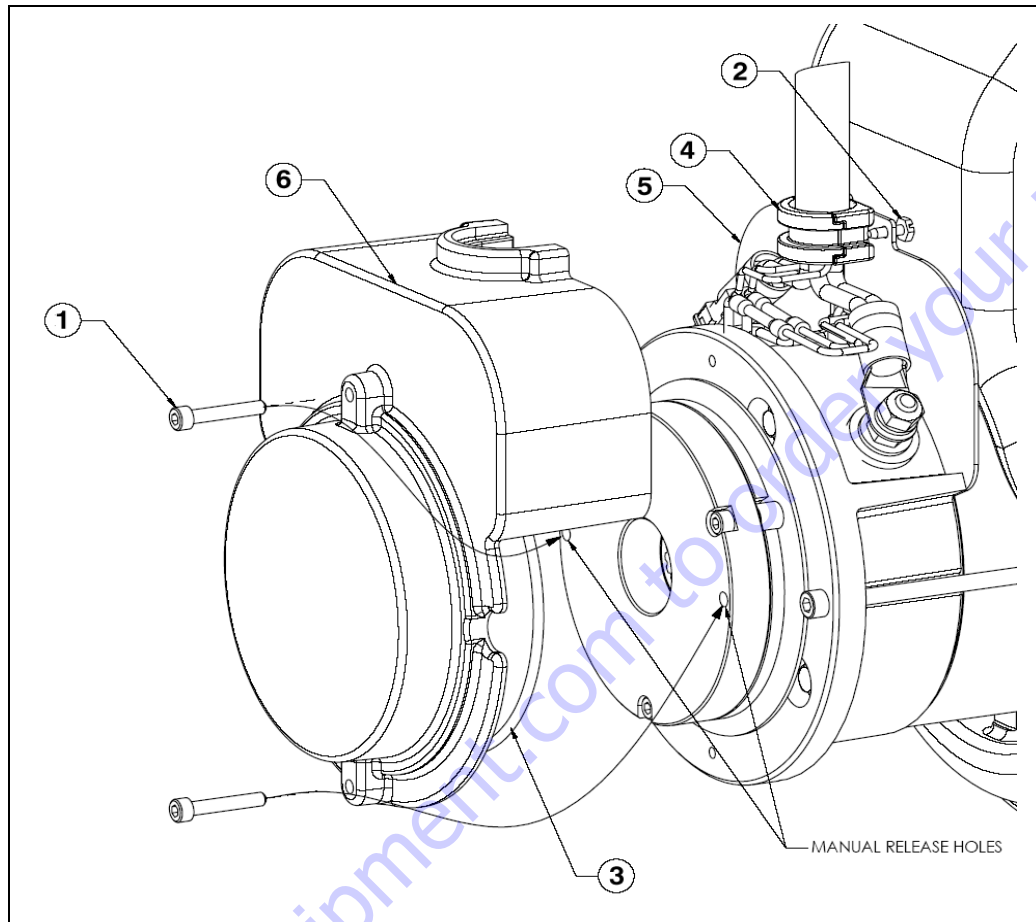
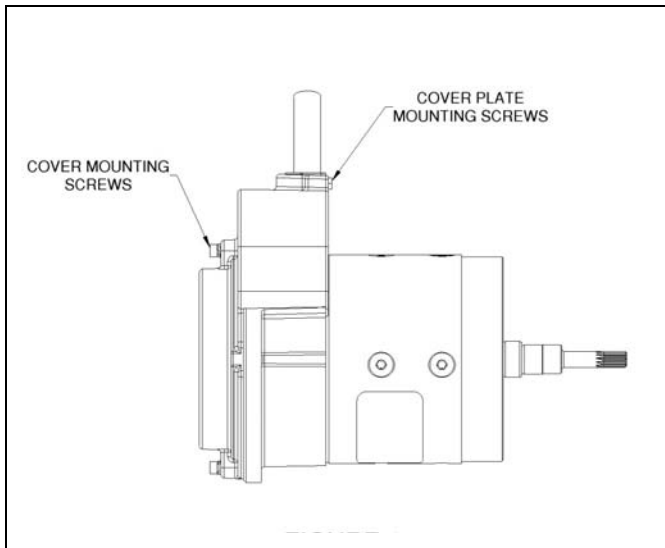
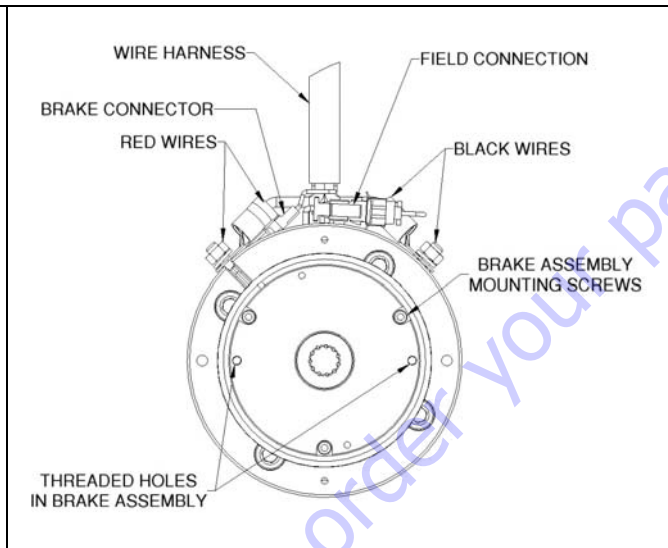

Figure 4-4. Brake Manual Disengage Procedure
Figure 4-6. Drive Motor Side View
Figure 4-7. Drive Motor End View (Brake End)
1. Remove the 2 (#8-32UNC x .500in long) screws holding the cover plate (12) in place (See Figure 4-6.) and remove the cover plate from the motor.
2. Remove the 2 (M5 x 0.8 x 20mm long) screws holding the cover (15) in place and set aside. These screws are needed later to manually release the brake. Slide the strain relief bushing (14) and wire harness out of the cover and remove the cover from the motor. Remove strain relief bushing from wire harness and set aside.
3. Discard the O-ring (13) located inside the cover.
4. Remove the wire harness (8) from the motor by disconnecting the field connection, brake connection, and armature connections. (See Figure 4-7.).
5. Install the 2 cover mounting screws into the threaded holes in the brake assembly and tighten to manually release the brake. (See Figure 4-7.) or image in the "Manual Disengage Procedure" (See Figure 4-4.).
6. Remove the 3 screws holding the brake assembly (11) to the motor. Carefully remove the brake assembly and friction disk (10) from the motor by sliding off of the shaft. (See Figure 4-7.).
7. Remove the screws holding the commutator end head (9) in place and remove the commutator end head from the frame and field assembly (1). The armature (2) will be attached to the commutator end head.
8. Pull back the brush springs (4) in the commutator end head, pull the brush back and rest the springs on the side of the brush. The brushes should move freely within the holders.
10. Remove the snap ring (6) and bearing (7) from the commutator end head. Discard the bearing.
7. Install wire harness (8) to motor by connecting the field and brake connectors and securing the armature terminals to the terminal studs. Refer to Figure 4-7. for proper connections. Motor terminals must be assembled as shown (See Figure 4-8.). Always secure the bottom nut with a wrench as you tighten the top nut. Torque top nut to 90-110 in-lb [10.2-12.4 N-m].